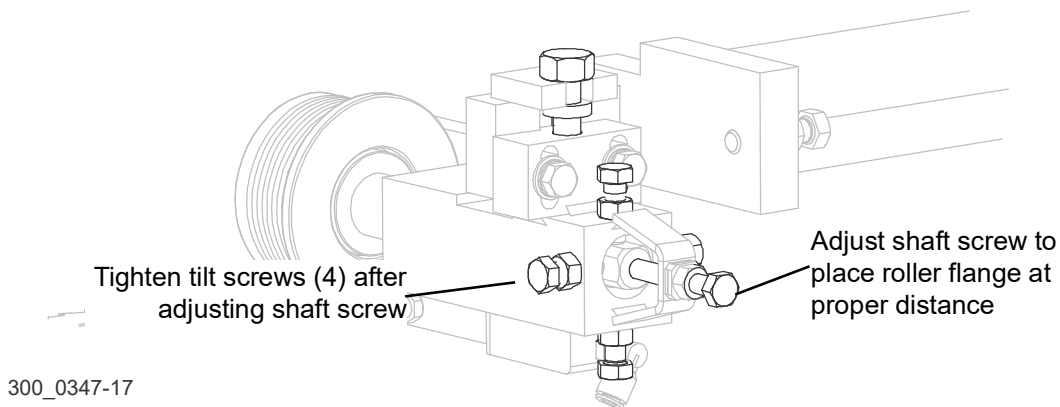

FIG. 3-38
1. Move the guide assembly forward until the roller flange is 1/16" (1.5mm) - 1/8" (3mm) from the back edge of the blade and tighten clamp bolts. See Fig. 3-38.